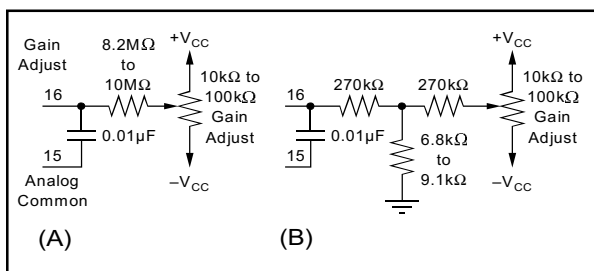

FIGURE 5. Two Methods of Connecting Optional Gain Adjust.
easily be increased a small amount by use of a low temperature coefficient potentiometer in series with the analog input signal or by decreasing the value of the gain adjust series resistor in Figure 5.
**GAIN**—Connect the gain adjust potentiometer as shown in Figure 5. Set the input voltage to the nominal plus full-scale value minus 3/2LSB. Once again referring to Table I, this value is  $+10V - 7.32mV$  or  $+9.99268V$  for the  $-10V$  to  $+10V$  range. Adjust the gain potentiometer until the output code is alternating between  $000_H$  and  $001_H$  with an approximate 50% duty cycle. As in the case of offset adjustment, this procedure sets the converter end-point transitions to a precisely known value.